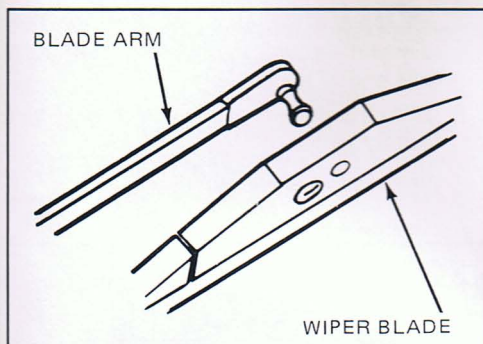

Figure 2 - Removing wiper blade
4. While pressing down on the release lever, support the arm and gently, but firmly, pull the blade straight off. See Figure 2.